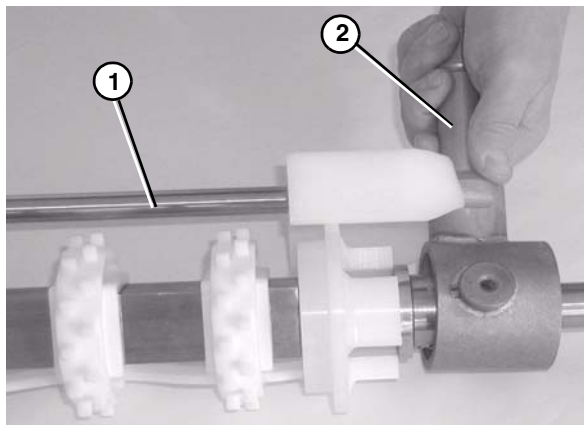

Figure 81
- Attach the guard bar (**Figure 81, item 1**) to the bearing / motor mount bracket shafts (**Figure 81, item 2**).